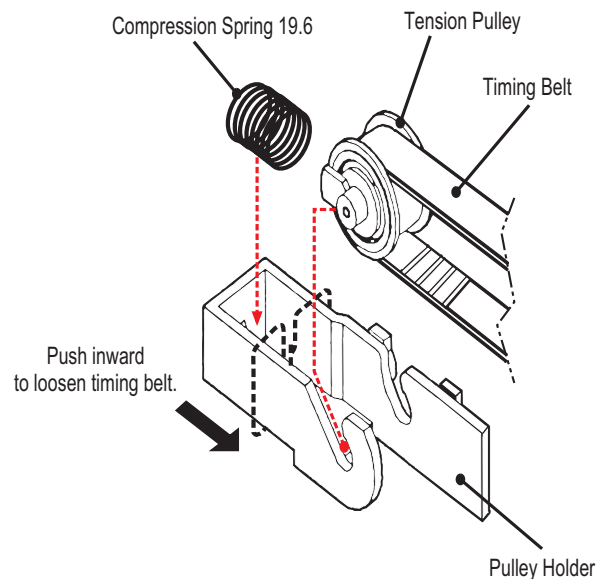

Figure 4-11. Timing Belt Tensioning Mechanism
4. Push the timing belt tensioning mechanism inward to loosen the timing belt (see Figure 4-11), then remove the timing belt from the CR motor pulley.
3. Loosen the timing belt by pushing the timing belt tensioning mechanism inward. (See Figure 4-11.) Then remove the timing belt from the CR motor.